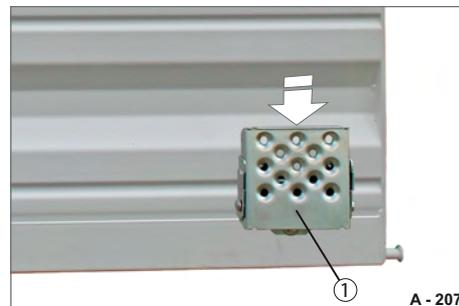

Fig. 218 Folding step, folded down
- ▶ Fold the folding step (Fig. 218/1) upwards and push it downwards. The folding step locks in a vertical position.